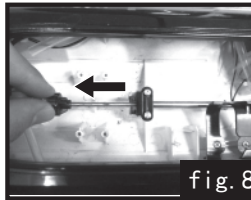

fig. 8
- 8.Pull the main shaft to the left,fig.8.